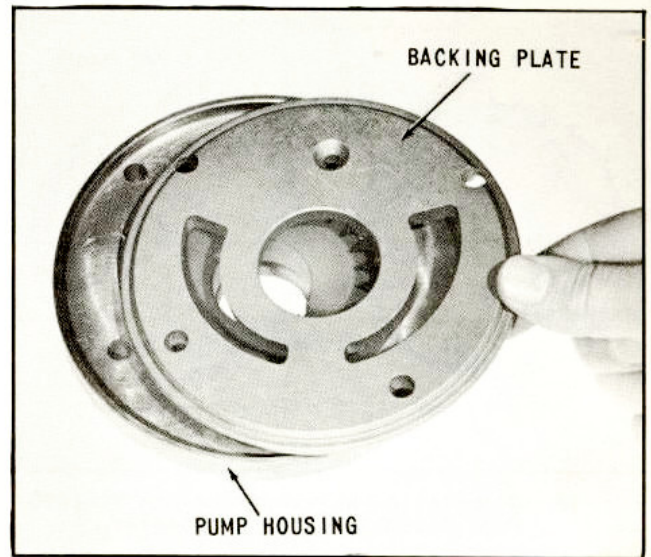

Fig. 92 Installing Backing Plate
9. Inspect both faces of backing plate for dirt, lubricate and assemble, as shown in (Fig. 92).